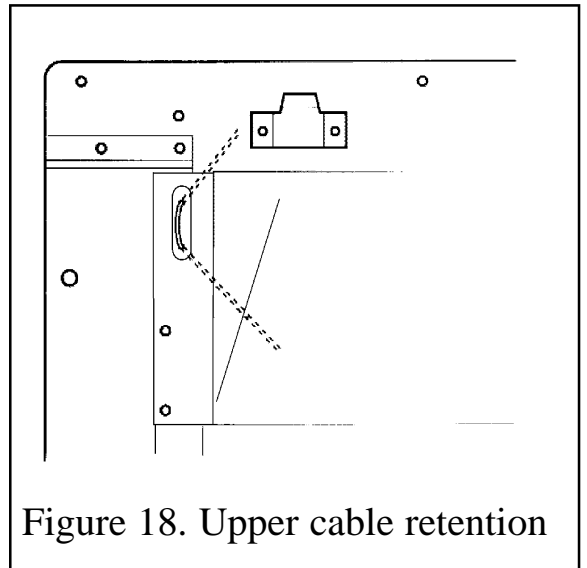

Figure 18. Upper cable retention
5. The hotbox has two holes at each side of the spillage plate. Insert one end of each cable (one cable each side) from the back through the lower of the two holes and return the end through the upper of the holes (See figure 18). Give the cables a pull so that they grip against the hotbox flanges.